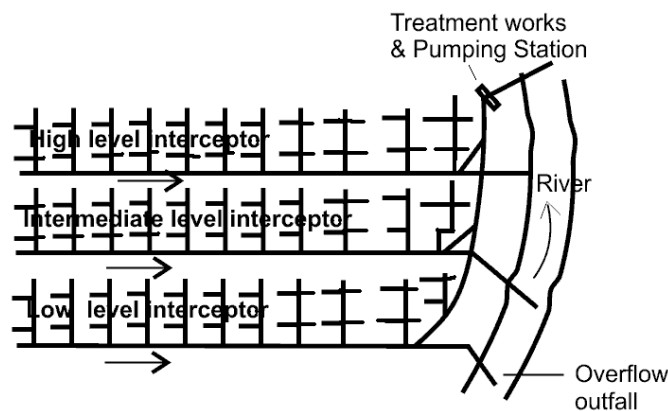

Figure 2.5 Zone pattern of collection system
- More numbers of interceptors are provided in this pattern (Figure 2.5).